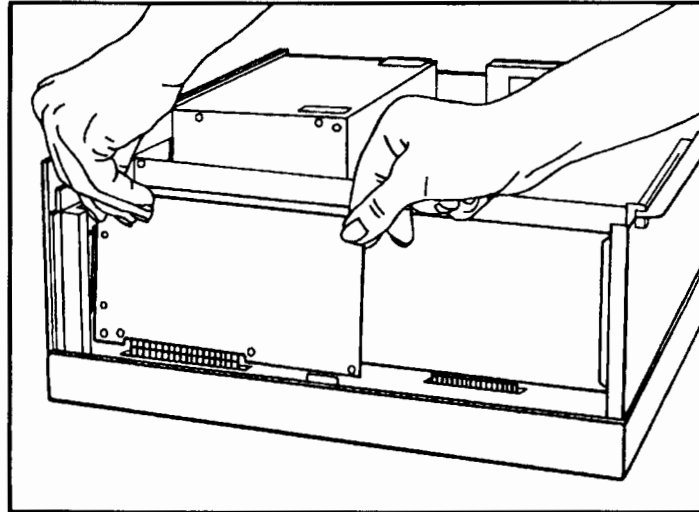

Figure 3-7. Installing the Interface Card
6. Position the interface card in your computer as shown in figure 3-7. If you are having difficulty fitting the card in the slot, you may need to adjust the position of an adjacent slot cover or support bracket to allow more room for the card.